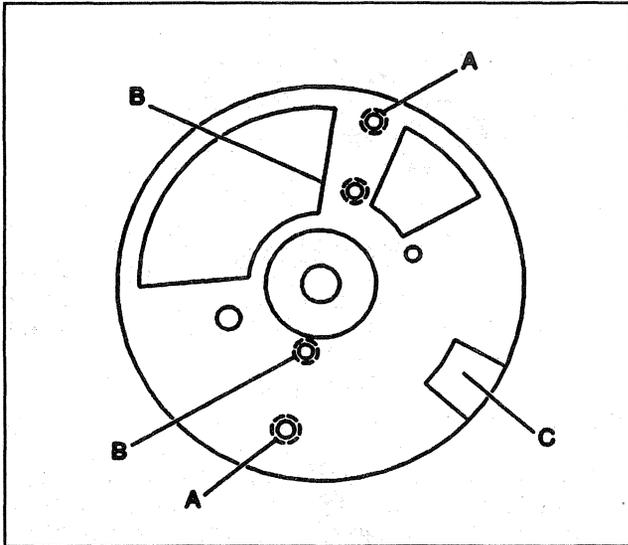

Figure 7—Vane Wheel in Distributor
- Note which locating holes the rotor was removed from (Figure 7).
- The square cut hole in the vane wheel must be aligned with the hall-effect switch in order to remove the hall-effect switch (Figure 7).